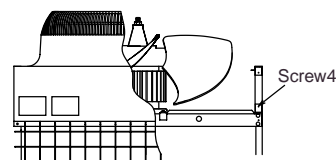

Fig.6 Front View
- Remove the screw4 from both sides of the side panel and replace the side panel with the supplied reinforcing plates. referring to Fig.6. (Other than PUHN type)